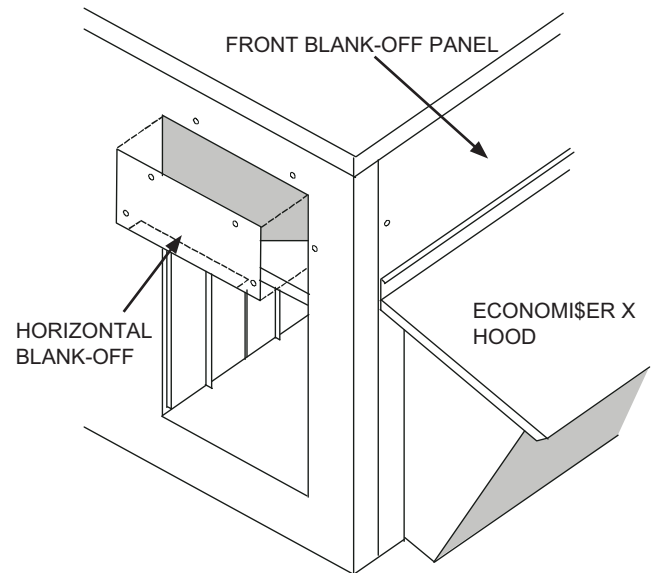

Fig. 8 — Horizontal Return Opening Blank-Off Panel
11. On some units, the EconoMiSer X assembly and hood does not reach to the top of the unit. In this case a front blank-off panel must be installed. Install provided front blank-off panel above hood. Screw in place. (See Fig. 8 and 9.)
13. On some units, the return damper does not reach to the top of the horizontal return opening in the unit. In this case, a horizontal blank-off must be installed. Install the horizontal blank-off at the top of the horizontal return opening. (See Fig. 8.) Screw in place through pre-punched holes.